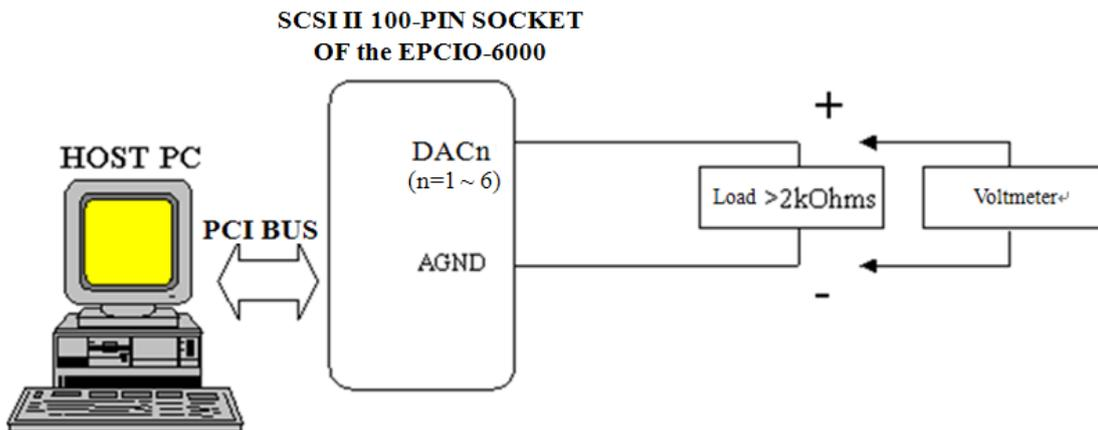

Figure 3-8.1
**3.8.1 Hardware wiring (refer to Section 3.1 Basic Installation and the following description). Taking EPCIO-6000 for example, Figure 3-8.1 shows the ADC input connections of EPCIO-6000.**